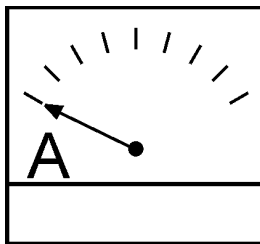

Figure 52. Ammeter (No Load)
16. The ammeter (Figure 52) will indicate **zero amps** with no load applied. When a load is applied, the ammeter will indicate the amount of current that the load is drawing from the generator.